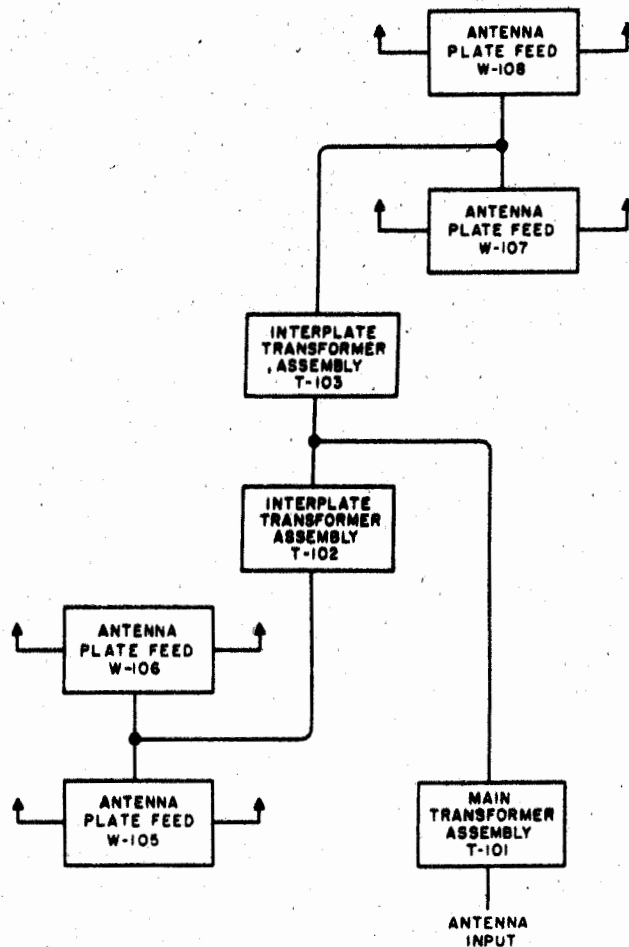

Figure 2-4. Antenna Feed System, Block Diagram
(2) The antenna feed system impedance matches the antenna input to the radiators for a maximum transfer of r-f energy. Starting at the antenna plate feed, the matched impedances are as follows: (See figure 2-4.)